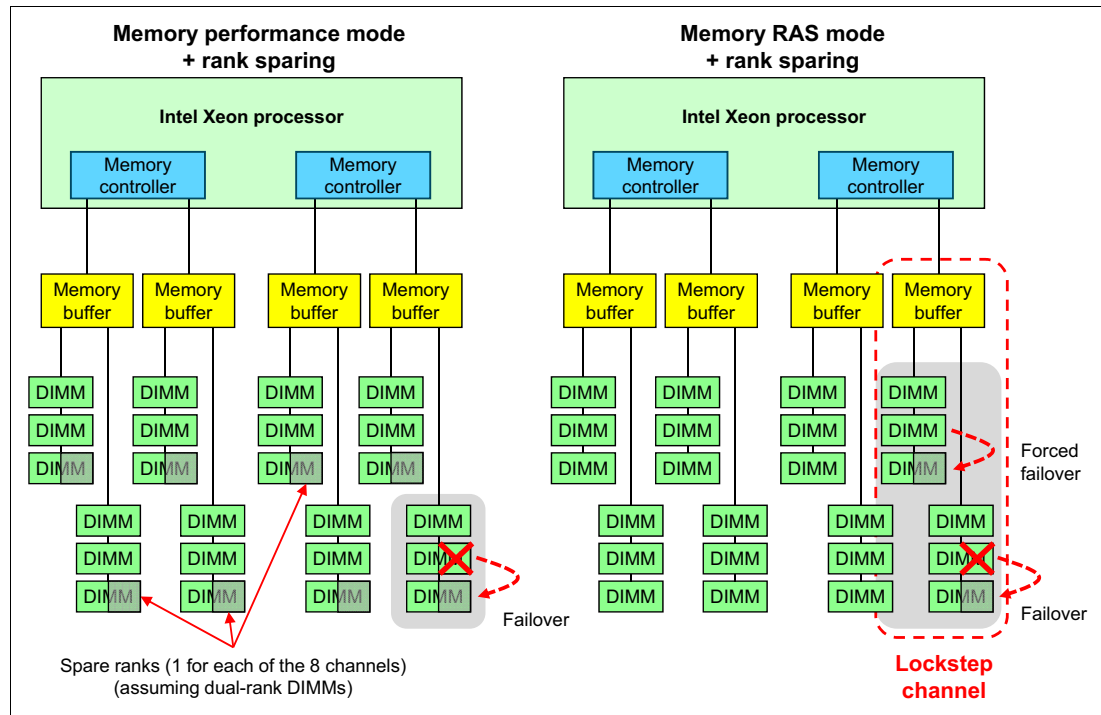

Figure 2-26 Rank sparing: Performance mode (left) and RAS mode (right)
- ▶ When Performance mode is used, rank sparing duplicates data between memory modules of the *same channel* of one memory buffer. If there is an imminent failure (as indicated by a red X in Figure 2-26 on page 41), that rank is taken offline and the data is copied to the spare rank.
- ▶ When RAS (Lockstep) mode is used, rank sparing duplicates data between memory channels of one memory buffer. If there is an imminent failure (as indicated by a red X in Figure 2-26 on page 41), that rank is taken offline and the data is copied to the spare rank. In addition, the partner rank on the other channel that is connected to the same memory buffer also is copied over.
Figure 2-26 shows the rank sparing usage with Performance mode (left) and RAS mode (right).